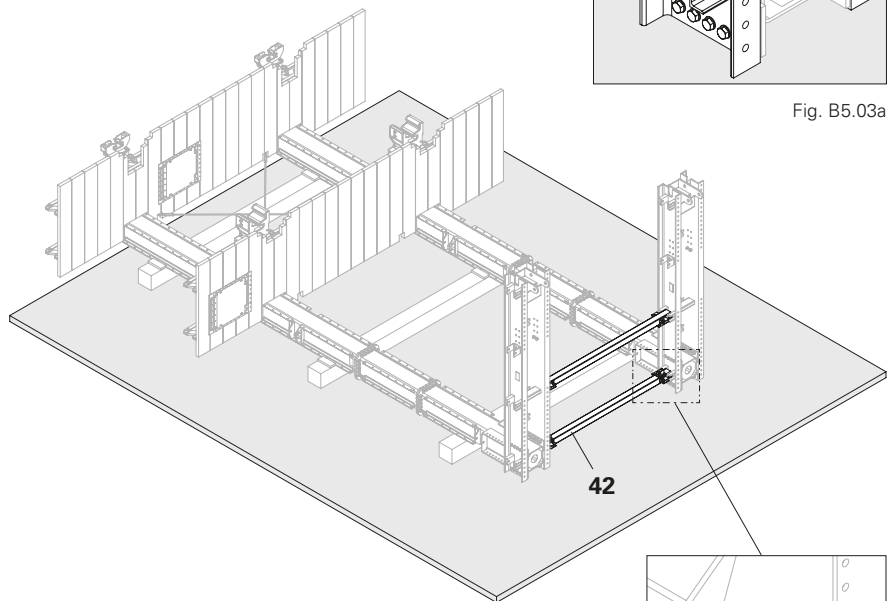

Fig. B5.04
2. Bolt the compression strut for Cross Bracing ACS (**42**) at the installation position with bolt 25 x 180 (**64**) and cotter pin 5/1 (**207**). Make sure that the connection lugs are positioned correctly. (Fig. B5.04)